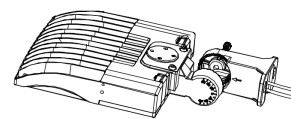

Fig. 5
1. Remove the bracket mounting screws on the fixture and run the wires through the bracket (Fig. 5).